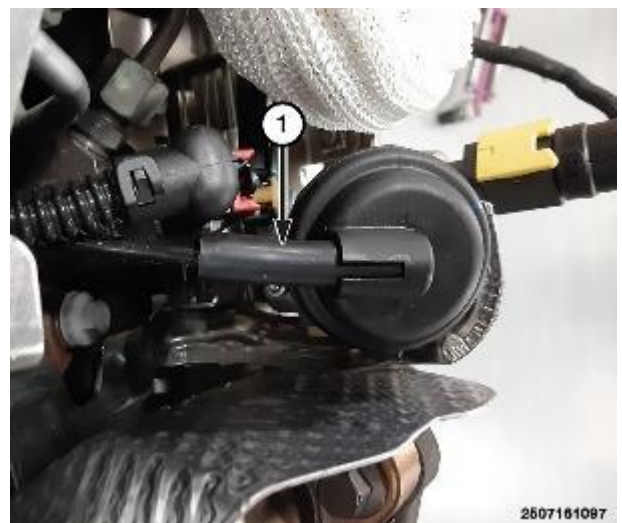

Figure 130 – EGR Cooler Vacuum Bypass Hose
68. Disconnect the EGR cooler vacuum bypass hose (1) (Figure 130).